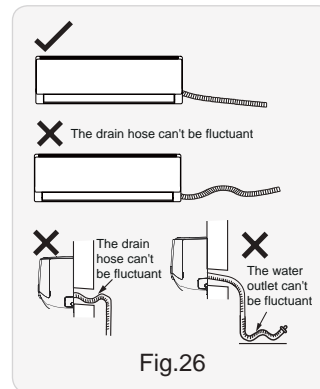

Fig.26
- (2) Slant the drain hose slightly downwards. The drain hose cant be curved, raised and fluctuant, etc. (As show in Fig.26)